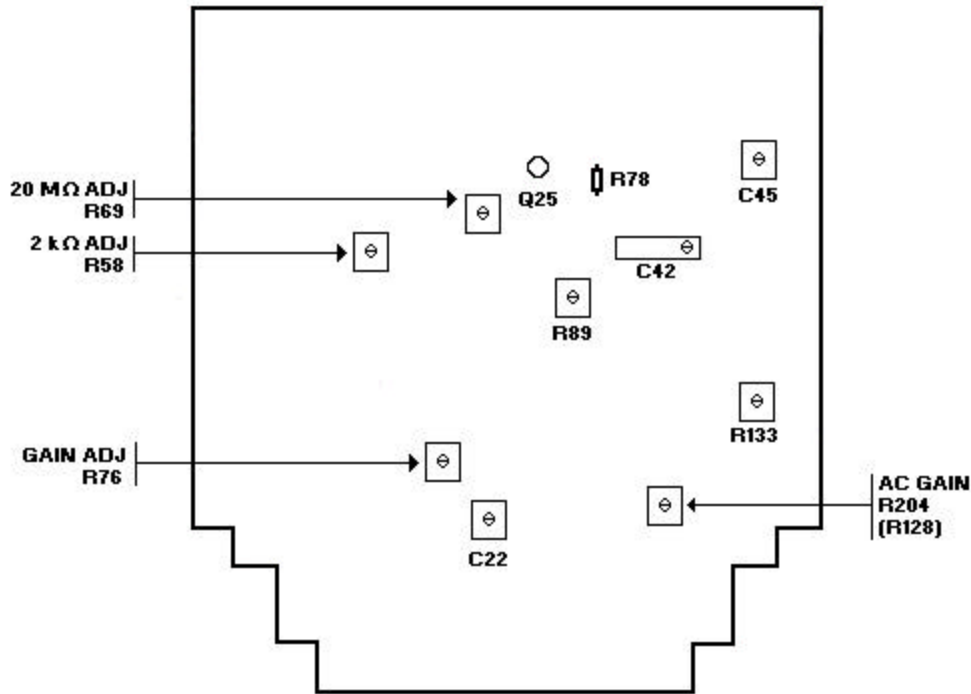

Figure 1. Adjustment locations (models 3465A and 3465B) - bottom view.
b. Adjustments. Adjust **GAIN ADJ R76** (fig. 1) for a TI indication of 10.000 (± 3 digits) (R).
- (1) Press TI **2 k** range pushbutton and disconnect calibrator from TI.
- (2) Short TI **VW** and **COM**.
- (3) Connect multimeter to junction of R78 and Q25 (fig. 1). Adjust 20 M Ω ADJ R69 (fig. 1) for a multimeter indication of < 500 μ V (R).
- (4) Remove short from TI **VW** and **COM** and disconnect multimeter.
- (5) Connect calibrator **OUTPUT HI** and **LO** to TI **VW** and **COM**.
- (6) Set calibrator for a 1 k Ω output and **2 wire Comp** on. Adjust 2 k Ω ADJ R58 (fig. 1) for a TI indication equal to calibrator output display rounded to TI digits of resolution (\pm 2 digits) (R).
- (7) Press TI **20 M** range pushbutton.
- (8) Set calibrator **2 wire Comp** off and output to 10 M Ω . Adjust 20 M Ω ADJ R69 (fig. 1) for a TI indication equal to calibrator output display rounded to TI digits of resolution (\pm 1 digit) (R).
- (9) Press TI **2 k** range pushbutton.
- (10) Repeat (6) through (9) above for best compromise.
- (1) Set calibrator to **STANDBY**.
- (2) Press TI **2** range pushbutton.
- (3) Set calibrator for a 1 V, 200 Hz output. Adjust AC GAIN R204 (R128) (fig. 1) for a 1.0000 TI indication (R).
- (4) Set calibrator for a 100 mV, 200 Hz output.
- (5) Press TI **200 m** range pushbutton. Adjust R133 (fig. 1) for a 100.00 TI indication (R).
- (6) Press TI **2** range pushbutton.
- (7) Set calibrator for a 100 mV, 20 kHz output. Adjust C45 (fig. 1) for a .1000 (± 1 digit) TI indication (R).
- (8) Press TI **200 m** range pushbutton. Adjust C42 (fig. 1) for a 100.04 (± 1 digit) TI indication (R).
- (9) Press TI **20** range pushbutton.
- (10) Set calibrator for a 10 V, 20 kHz output. Adjust C22 (fig. 1) for a 10.008 (± 1 digit) TI indication (R).
- c.** Set calibrator for a 1 V dc output. If TI does not indicate 1.0000, adjust R89 (fig. 1) for a 1.0000 TI indication (R).